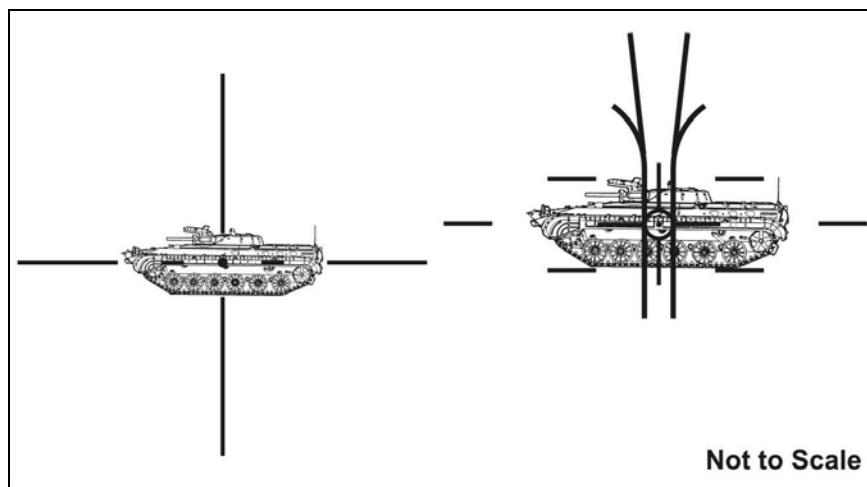

Figure 6-33. A3 kinematic lead.
d. Based on the range and speed of the target, the Bradley A3 system offsets the line of fire relative to the IBAS line of sight. This lets the gunner keep his reticle center mass of the target (Figure 6-33).